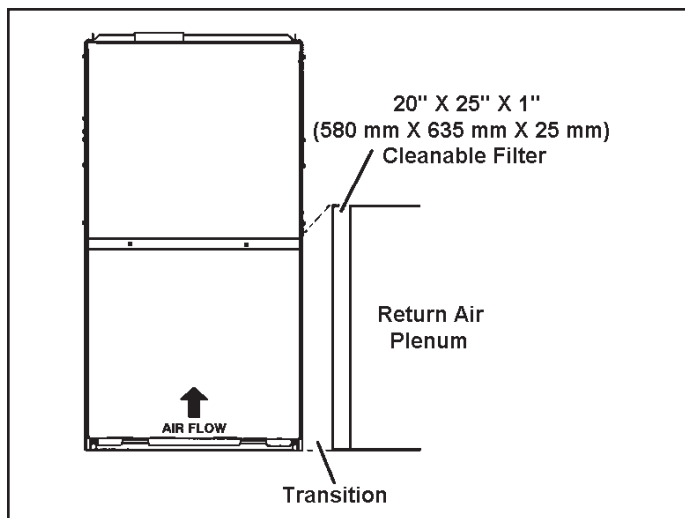

Figure 10. Single Side Return Air (with transition and filter)
1. Single side return air with transition to accommodate 20 x 25 x 1 in. (508 x 635 x 25 mm) cleanable air filter. (Required to maintain proper air velocity.) See Figure 10.